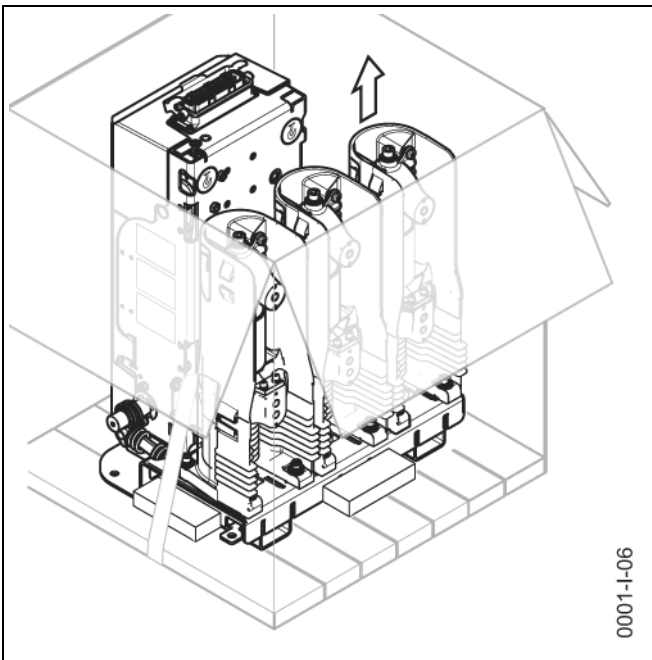
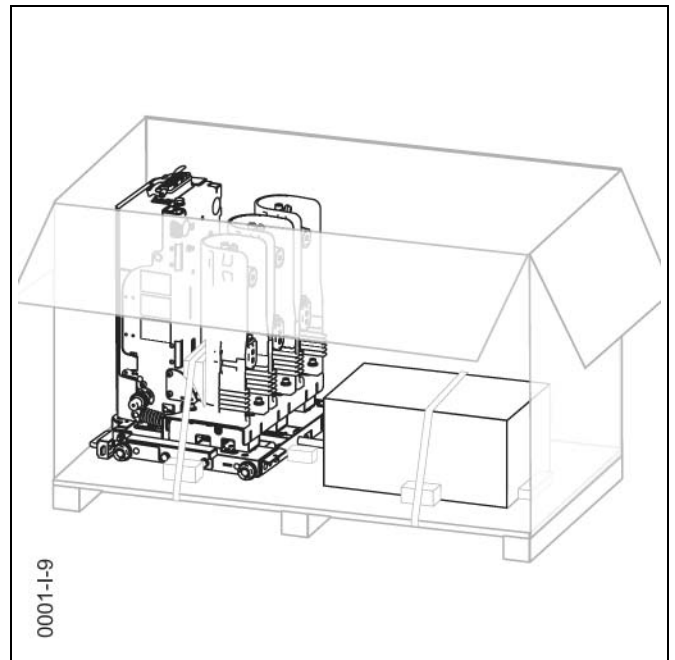

Fig. 3 Example – unpacking the fixed mounting version
Fig. 4 Example – unpacking version with withdrawable part
- The vacuum circuit-breaker is attached to the pallet with belt straps. It is not permitted to transport the vacuum circuit-breaker on the pallet without using belt straps (see Fig. 3 to Fig. 4).